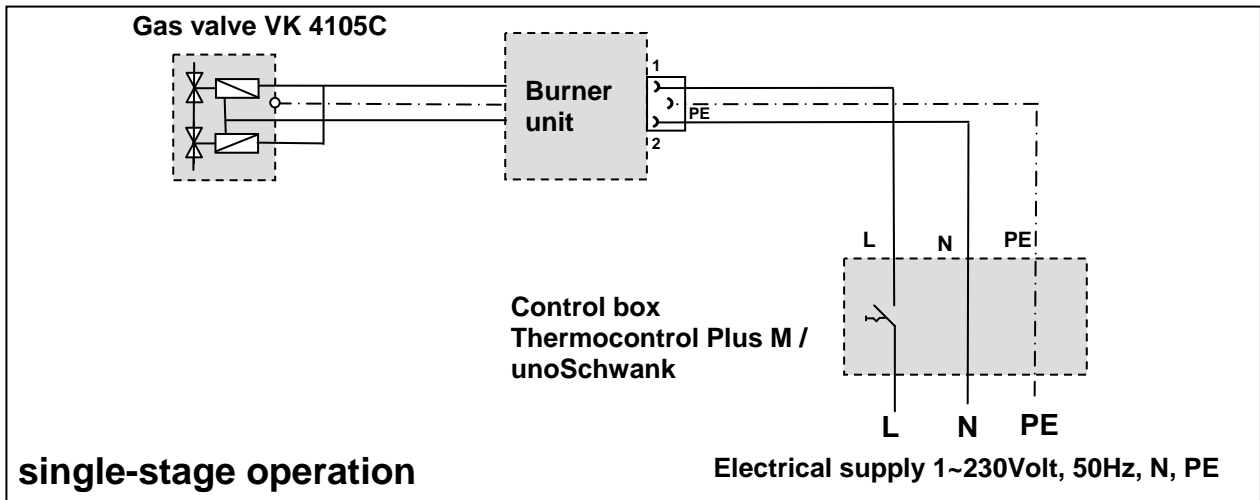

Fig. 24: Connecting diagram single-stage regulation infraSchwank D / calorSchwank D
- ⇒ Route the connection cable (power supply) to the three-pin plug and connect the cables (see Fig. 24, page 27).